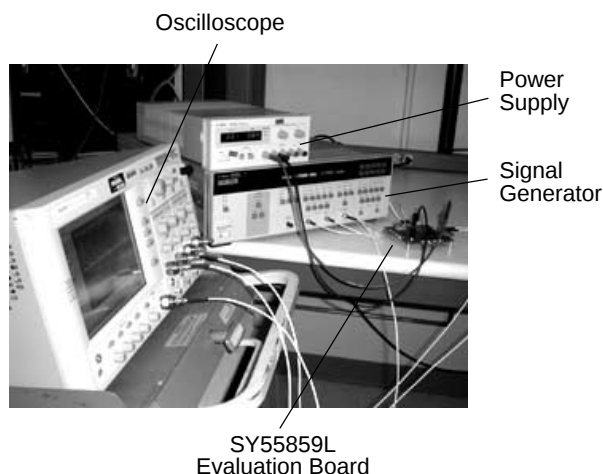
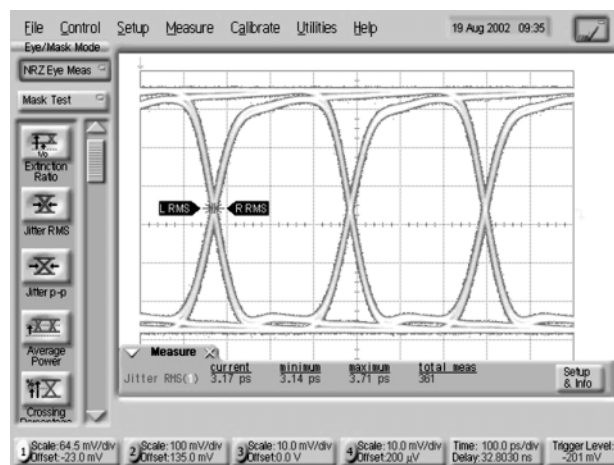

Figure 1. Measuring an Eye Diagram
Figure 2. Example Eye Diagram
This section describes how to obtain an eye diagram using the SY55859L evaluation board. An example bench set-up is shown in Figure 1. Following these instructions, you will be able to obtain an eye diagram similar to the one shown in Figure 2 below.
Using one pair of length matched SMA cables, connect the differential output of the signal generator to J1, labeled "DA0," and J5, labeled "/DA0." In the setup shown in Figure 1, an Agilent 8133A signal source generates a $2^{32}-1$ PRBS pattern.
6. *View the Eye:* Adjust the oscilloscope to show the eye diagram. An example eye, coming from an Agilent 86100A DCA, appears in Figure 2 below.